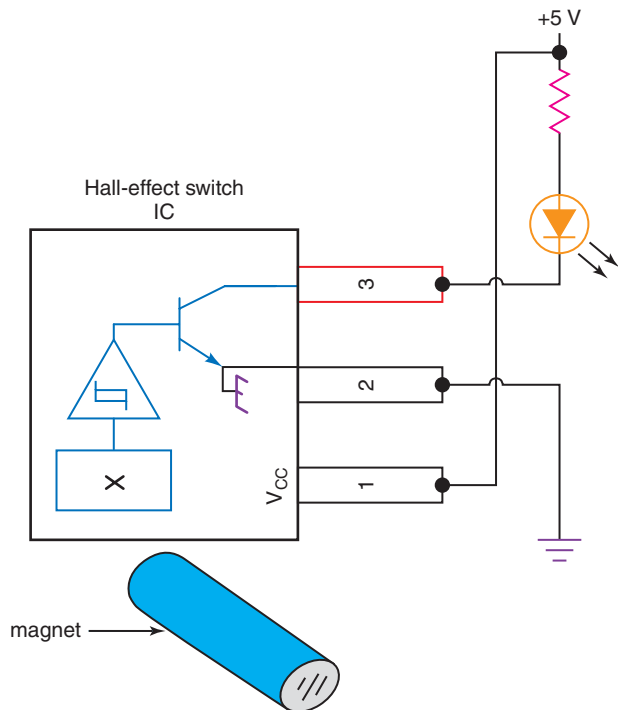

Fig. 5-48 Art for chapter review questions 5-66, 5-67, 5-68, and 5-70.
- 5-66. Refer to Fig. 5-48. If the Hall-effect IC uses *unipolar switching*, then increasing the magnetic field by moving the south pole of the magnet towards the sensor will turn the switch _____ (OFF, ON) while removing the permanent magnet completely will turn the switch _____ (OFF, ON).
- 5-67. Refer to Fig. 5-48. If the IC is the bipolar 3132 Hall-effect switch then the _____ (N, S) pole of the magnet will turn the device ON while the _____ (N, S) pole will turn the output transistor OFF.
- 5-68. Refer to Fig. 5-48. If the IC is the bipolar 3132 Hall-effect switch then moving the north pole of the magnet near the sensor will turn _____ (OFF, ON) the switch, the voltage at pin 3 will _____ (drop LOW, raise HIGH), and the LED will _____ (light, not light).
- 5-70. Refer to Fig. 5-48. The output of this IC is _____ (analog, digital) in nature.